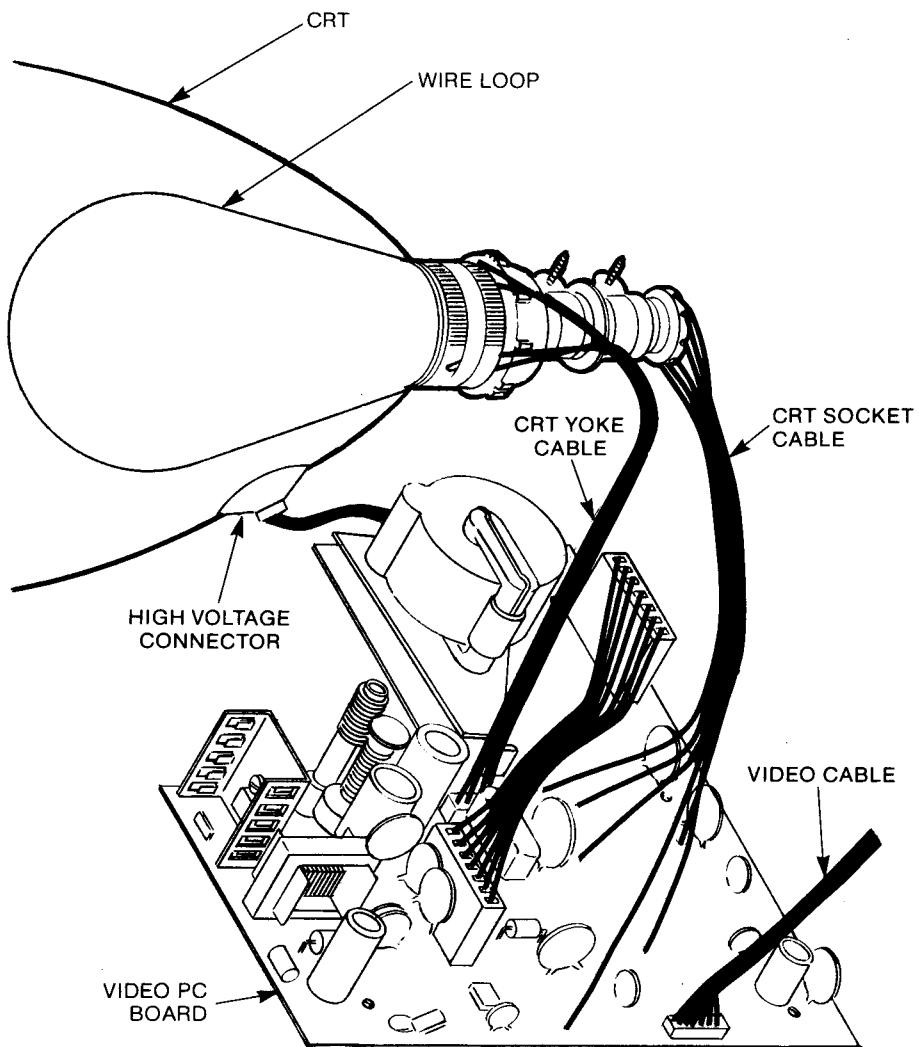

Figure 7-19
3) Disconnect the Video Cable by pulling the cable connector off the Video PC Board (see Figure 7-19).
5) Discharge the CRT anode. Connect one end of a well insulated grounding probe to the wire loop on the side of the CRT (see Figure 7-19). Push the other end of the probe down between the side of the CRT and the high voltage connector until the probe touches the metal contact.
7) Remove the CRT socket cable by pulling the cable connector straight off the end of the CRT neck (see Figure 7-19).
- 8) Disconnect the CRT yoke cable from the Video PC Board by removing the connector attached to the PC board (see Figure 7-19)
Handle the CRT yoke with care to avoid breaking the tiny magnets glued to the outside of the yoke. The yoke is shown in Figure 7-19.
Handle the CRT yoke with care, to avoid breaking the tiny magnets glued to the outside of the yoke. The yoke is shown in Figure 7-19.
- 13) Connect the CRT yoke cable (see Figure 7-19). Align pin 1 on the cable connector with pin 1 on the PC board connector, and push the cable connector straight down onto the board.
- 14) Connect the CRT socket cable (See Figure 7-19). Align the seven pins on the CRT with the seven holes in the socket and press the socket onto the CRT.
- 15) Connect the high voltage lead (see Figure 7-19). Observe the two metal contacts on the high voltage connector. Hook these contacts into the hole in the side of the CRT, one contact at a time.